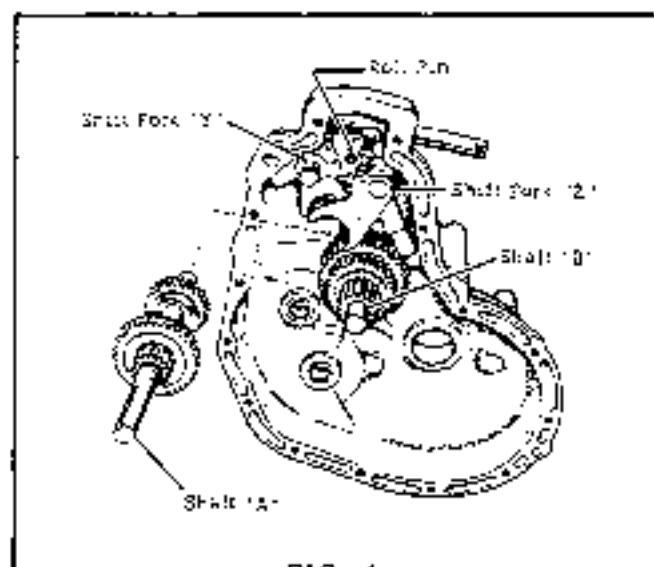

FIG. 4
Now, lift the pulley shaft "A" with one hand to clear the lower bearing, and with the other hand, raise the cluster of gears on shaft "B" slightly to allow pulley shaft "A" and its gears to be moved away from the shift forks. When the yokes of the shift forks disengage from the shift rings on the gear clusters on shaft "A", the shaft and gears may be lifted free of the transmission. Now, lift out shaft "B" and its gear. See Fig. 4.
8. To remove the shift rod first loosen the lock nut on the shift stem, and unscrew the shift stem from the shift rod. The shift rod may then be pulled from the case. See Fig. 4.